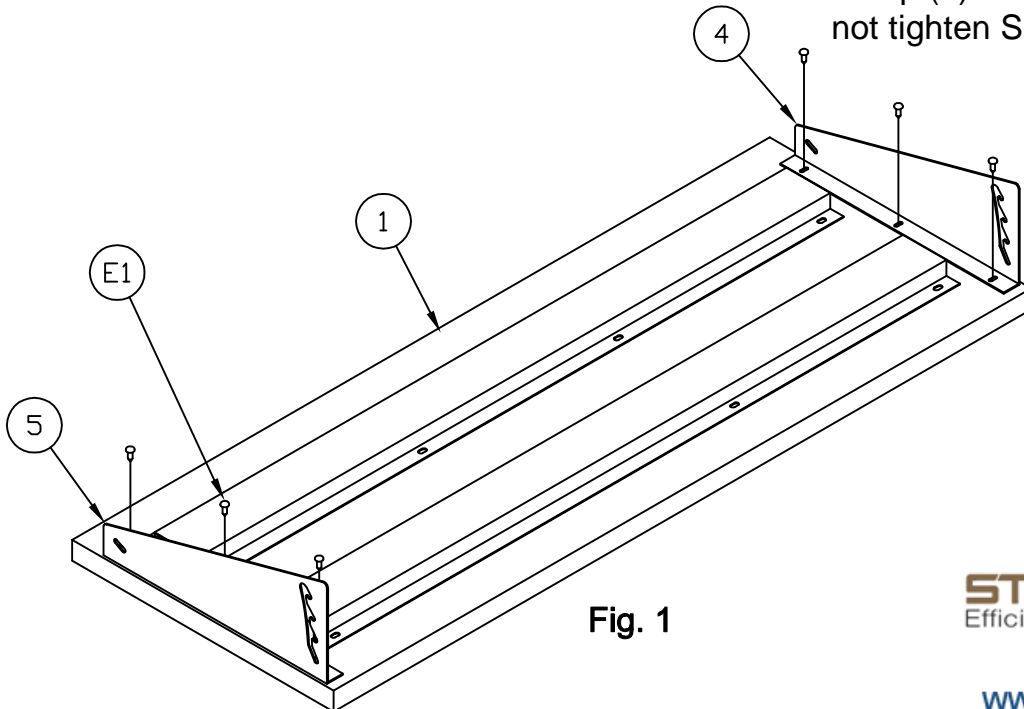

Fig. 1
2. Attach Shelf Inner Supports (4 and 5) to top (1) as shown using Screws (E1). Do not tighten Screws. See Fig. 1.